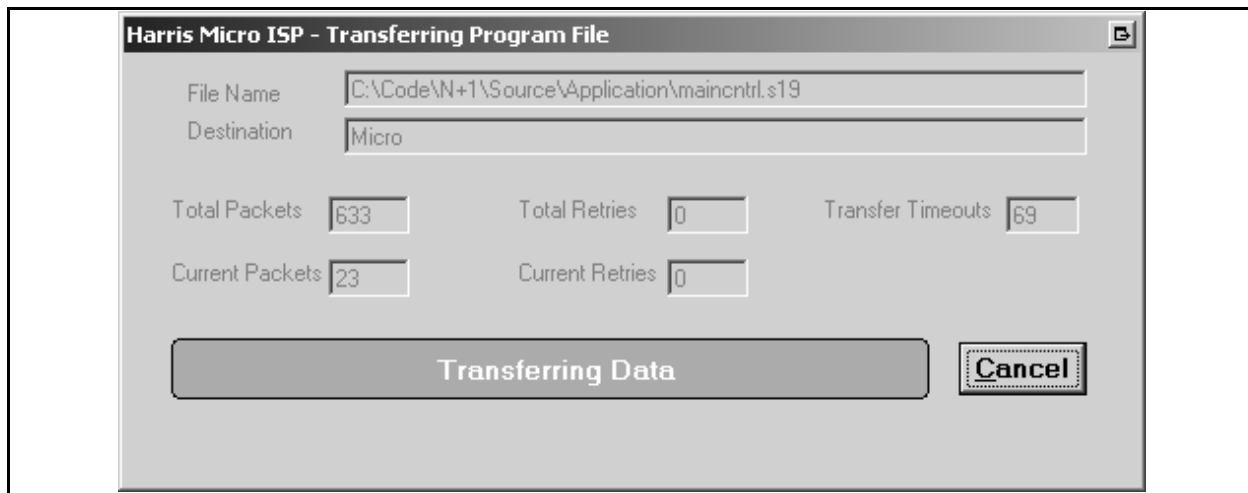

Figure 1-6 Data Being Transferred (will take several minutes)
STEP 10 Press Program. This will open the window in Figure 1-6 which monitors the transfer process. This will take several minutes.